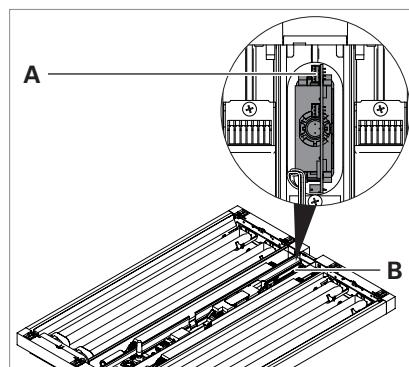

Fig. 5: Interface for luminaires with PIR sensor
- ▶ For luminaires with **PIR sensor**: Connect the other end of the connecting line to the interface **A** at the PIR sensor **B** in the luminaire head, see Fig. 5.